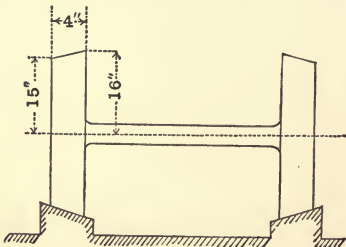

Fig. 2.
2. Fig 2 illustrates a pair of wheels and axle standing on longitudinal rails shaped to accurately fit the conical treads